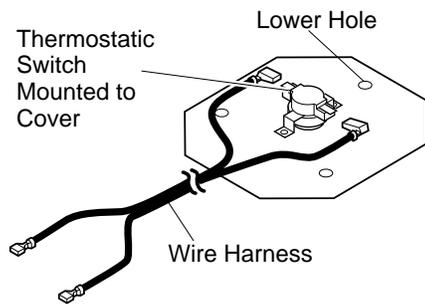

Figure 18 - Attaching Wire Harness to Thermostatic Switch and Cover Assembly
- Locate thermostatic switch/cover plate assembly and wire harness supplied with blower. Attach wire harness terminals to terminals on thermostatic switch. Push firmly. Make sure the bottom hole of cover is on the opposite side from the wire harness (see Figure 18).